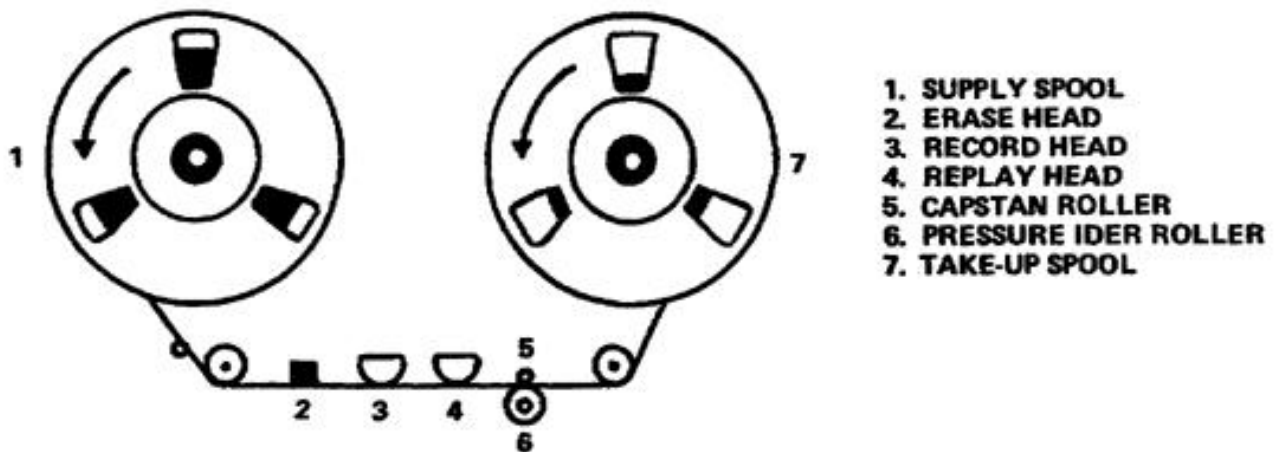

Figure 3-31. Tape transport
(1) Features of the tape transport (fig 3-31) include the tape supply reel, which has either a friction brake or an active back-torque. The back-torque is supplied by the drive system or a torque motor. Back tension (torque) keeps the tape from becoming tangled due to the inertia of the tape reel. The tension idler holds a certain amount of tape in its loop; this spare tape is temporarily let out during quick starts. A slight delay is allowed for the supply reel, which has appreciable inertia, to start turning at operating speed. The tension idler and back-torque work together to smooth out irregularities caused by the rubbing of the tape against the supply reel sides, sticking together of tape layers, or other causes.
(2) The tape is drawn from the tension idler, across the rolling tape guide, erase head, tape guide, record head, tape guide, and reproduce head. The force which draws the tape across the heads at a constant speed is provided by the capstan and the capstan pressure roller. The combination of the capstan, the tension idler, and the reverse torque of the supply reel keeps the tape under constant tension. There is friction between the tape and the stationary heads. This friction is a source of vibration. To help eliminate this vibration the transport mechanism components are mounted on a rigid base. Other causes of vibration are: the amount of wrap around the head, smoothness of head faces, tape tensions, tape condition, tape composition, temperature, and humidity. The capstan may be either the shaft of the drive motor or a shaft driven through a speed-reducing mechanism. The capstan drive motor, and any associated mechanism must be made with precision, and drive the tape at a constant speed, or they will cause problems during both record and playback.
(3) Immediately following the capstan and the capstan pressure roller is another tape guide to keep the tape in alignment with the heads. If the tape guides permit any vertical variation of the tape, the recorded signal may be attenuated during reproduction. In extreme cases the signal can be
c. Head assembly. Professional tape recorders employ three separate heads (fig 3-31). In their order of head placement they are the erase head, the record head, and the reproduce head. The first to be discussed will be the erase head.